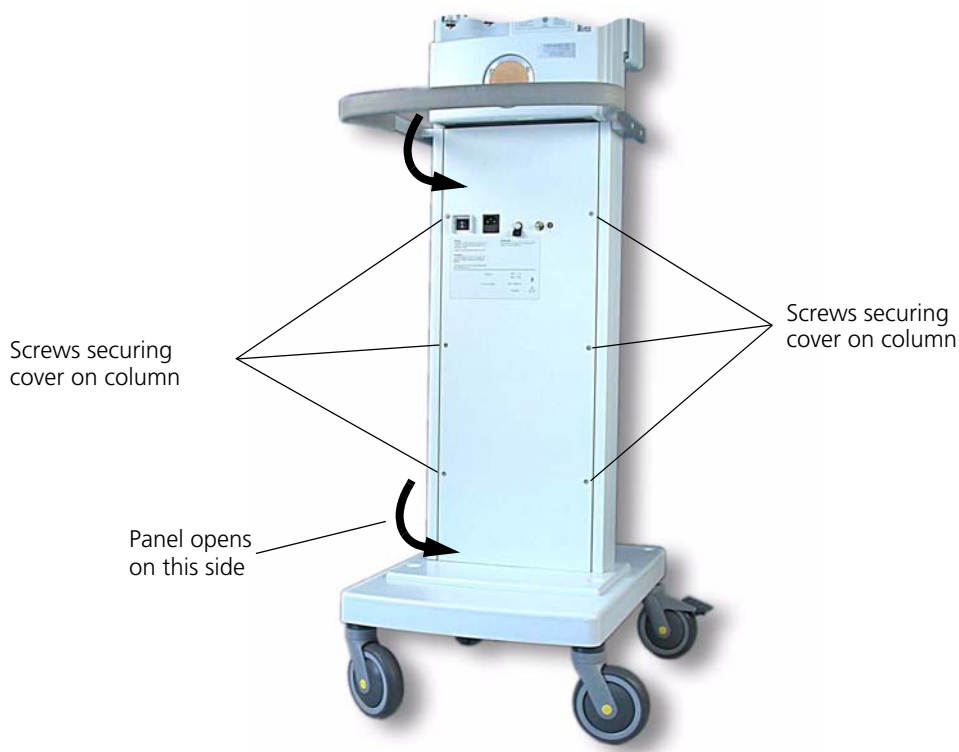

Figure 11-3. Positions of the screws securing the rear panel on the column
3. Loosen the rear panel of the column by removing the six hexagonal-drive (Allen) screws that hold it in place (Figure 11-3).